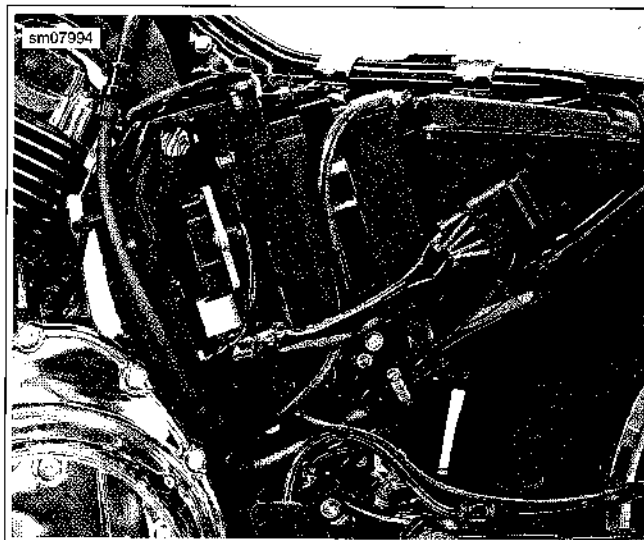

Figure 6-102. Under Seat Routing
36. See Figure 6-102. Fit rear HO2S connector [137] clip to top of battery tray.